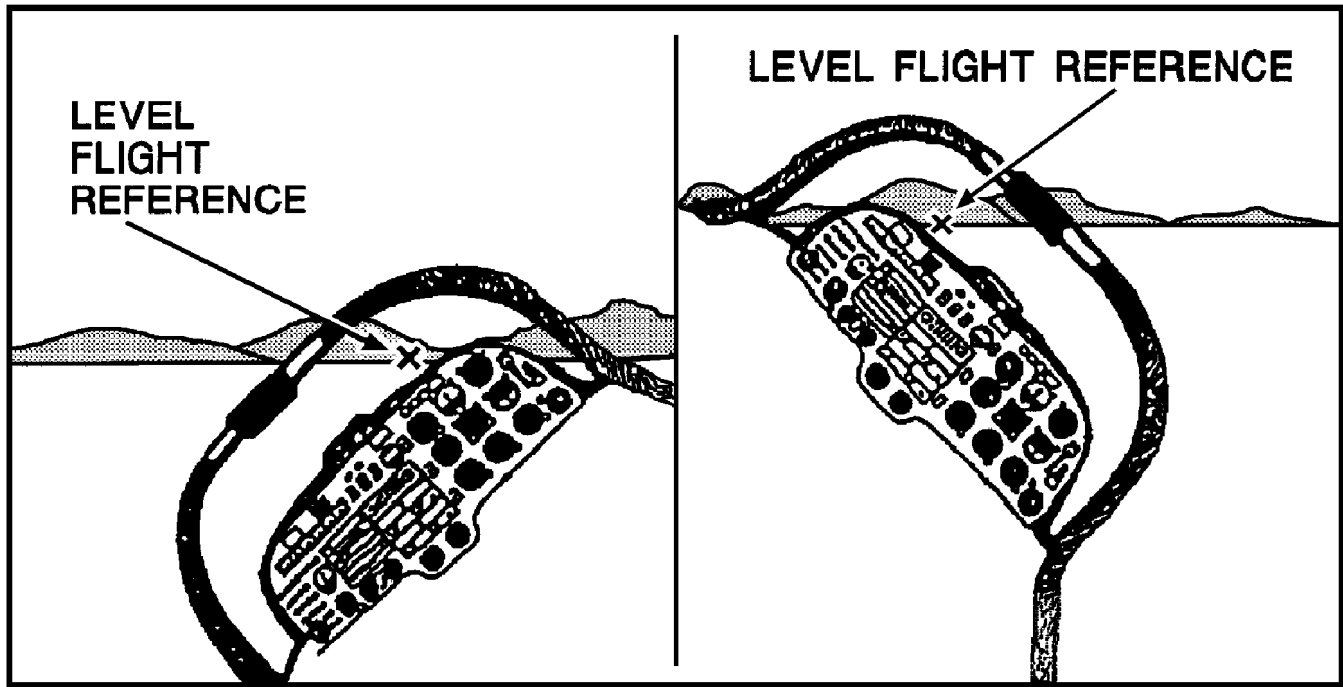

Figure 2.5. Left and Right Turn References--45° Bank Angle.
2.8.2. As the aircraft begins to roll, a point on the windscreen directly in front of you will appear to pivot on the horizon. This imaginary level flight reference point should remain on or near the horizon throughout the turn to maintain level flight (figure 2.5). As the bank increases, the pitch attitude will have to increase to compensate for the loss of vertical lift. In shallow turns, the increase in pitch attitude is relatively slight. As bank increases, the required increase in pitch attitude is more pronounced. Also, in steep turns you need to increase power to maintain airspeed.